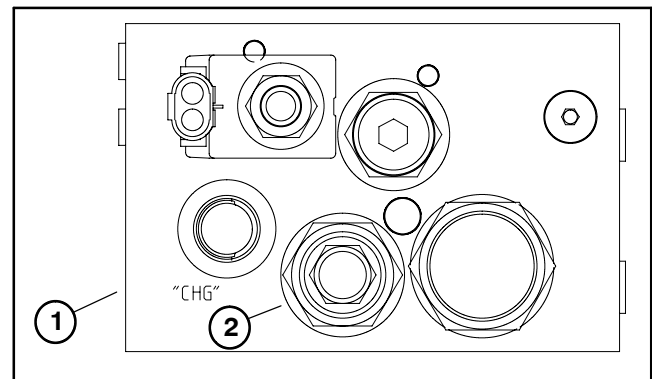

Figure 41
8. Pressure reducing valve (PR) is located on the lower, front side of the 2WD/4WD control manifold (Fig. 41). Adjustment of this valve can be performed as follows:
C. Recheck reducing valve (PR) pressure setting and readjust as needed.